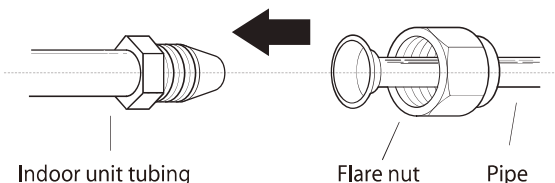

Fig. 5.7
1. Align the center of the two pipes that you will connect. See Fig. 5.7.